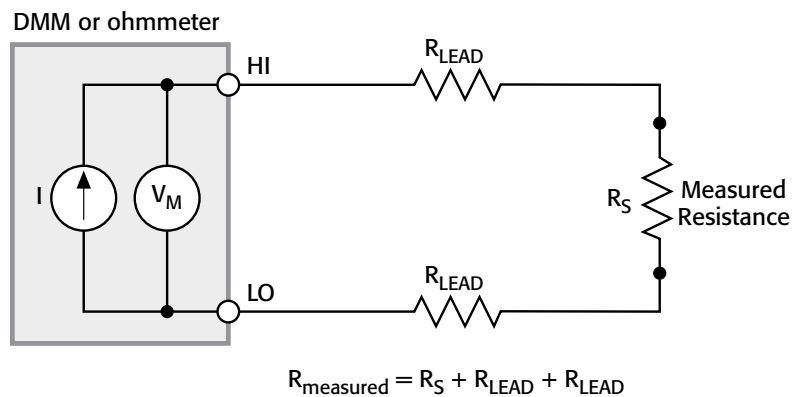
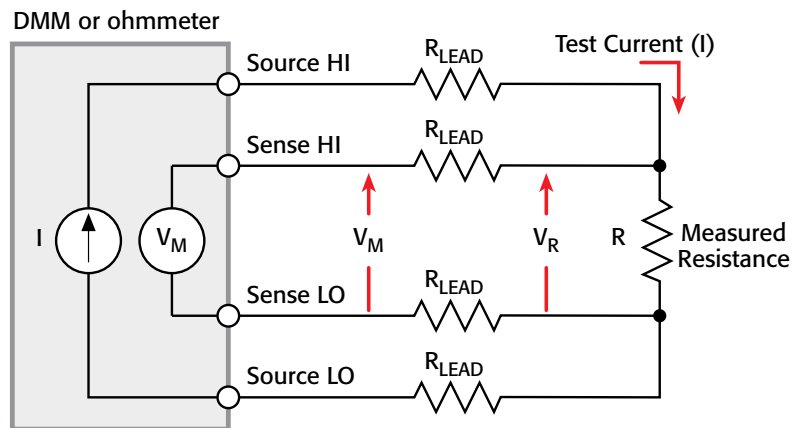

Figure 3a.
Figure 3b.
- Lead resistance.** For resistance measurements, especially at lower resistances, it is important to take into account the resistance of the test leads. In the example shown in *Figure 3a*, the two-wire ohms method is being used to determine the resistance. A current source in the meter outputs a known and stable current, and the voltage drop is measured within the meter. This method works well if the resistance to be measured is very much greater than the lead resistance. However, what if the resistance to be measured is much closer to the lead resistance or even less? Using four-wire measurements (*Figure 3b*) will eliminate this problem. The voltage drop is now measured across the resistor, instead of across the resistor and leads. The input resistance of the voltmeter tends to be very high in comparison to the resistance to be measured; therefore, the lead resistances on the voltmeter path can be ignored. If, however, the resistance to be measured is very high, and approaching the resistance of the voltmeter, then an electrometer or specialized meter with extremely high input resistance may be required.